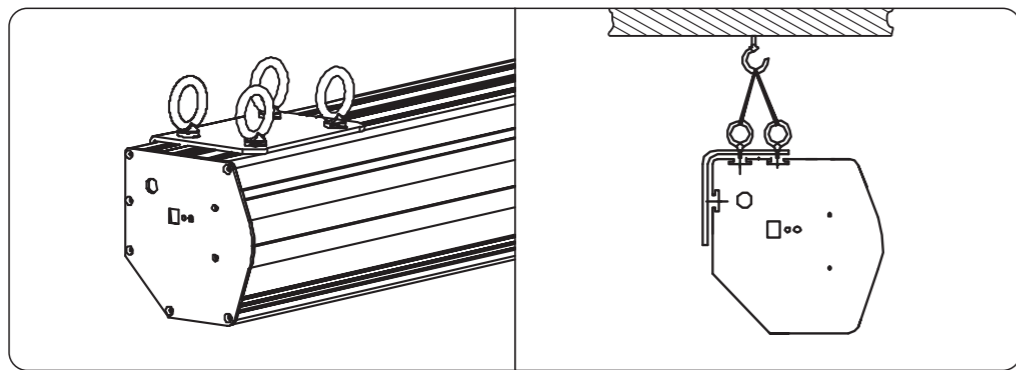

figure 2
2. Hang the screen on the hooks (not included in the accessories) as shown in Figure 2. Then, inspect the security of the hooks and, if necessary, take reasonable measures to ensure that the screen will not accidentally slip off the hooks under any circumstances